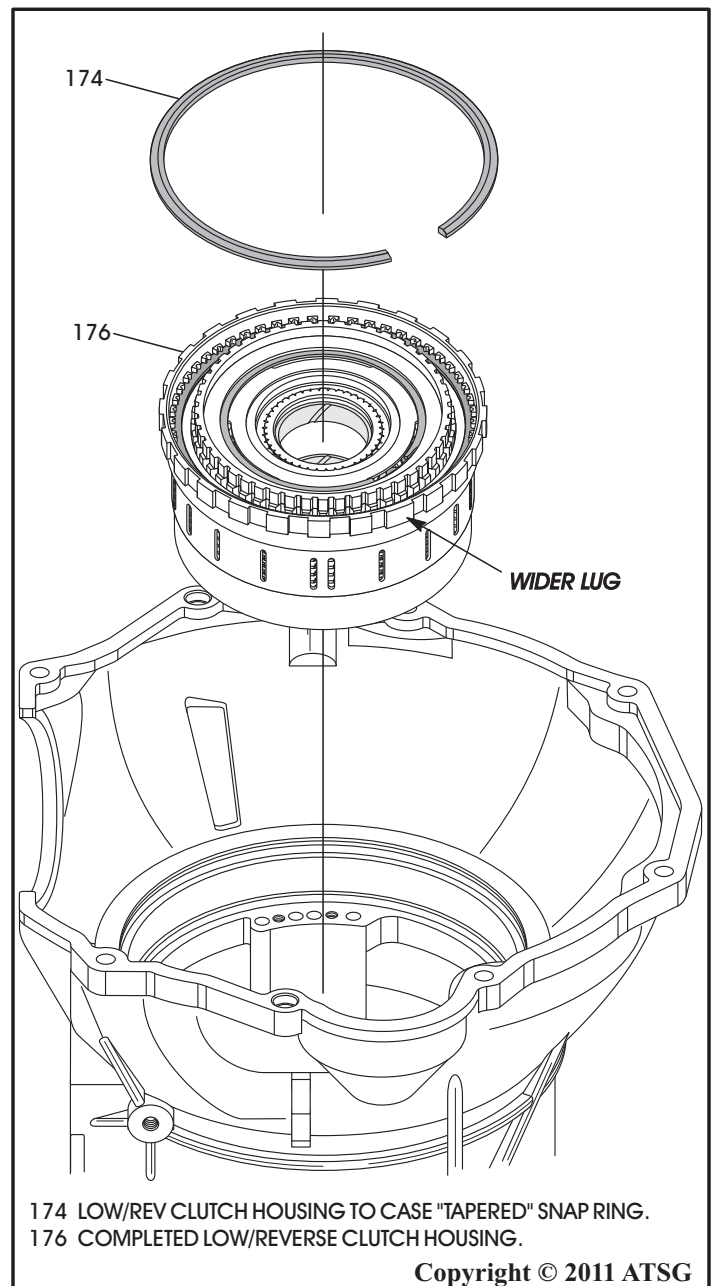

Figure 140
9. Install the completed low/reverse clutch housing, as shown in Figure 140.
Note: The low/reverse clutch housing has one lug that is wider than the rest to orient it in the case with the feed hole toward the valve body. The wider lug is at the 12-O-clock position in the transmission case (See Figure 140).
10. Install the low/reverse clutch housing tapered snap ring into the case just above the housing, with the taper facing up, and ensure that it is fully seated (See Figure 140).